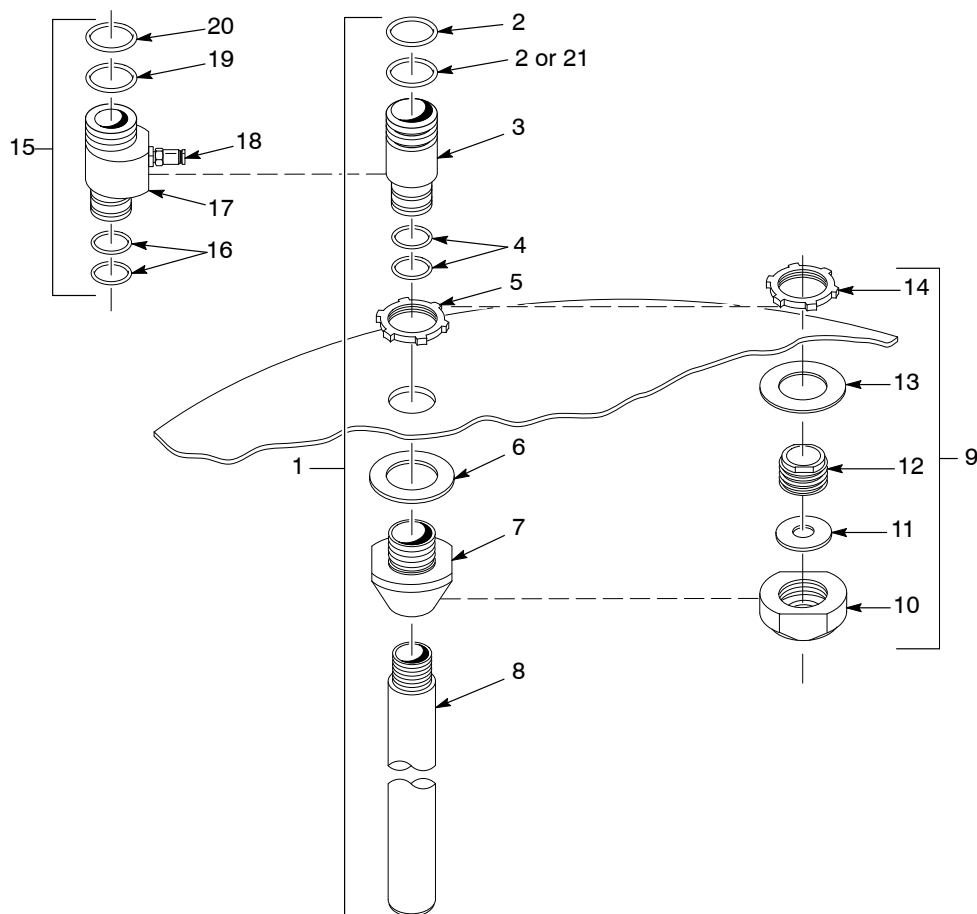

Figure 5 Pump Mount Kits and Optional Purge Mount Kits
See Figure 5.
See Figure 5. These kits are used for the system purge option and can only be used with the 8-mm corona pump, part 344251.
NOTE A: Use these kits together for the system purge option. B: This kit replaces items 5, 6, and 7 of the pump mount with pick-up tube kit illustrated in Figure 5. C: This kit replaces items 2, 3, 4, and 21 of the pump mount with pick-up tube kit illustrated in Figure 5. D: Black silicone O-rings are electrically conductive. Do not substitute non-conductive O-rings unless otherwise instructed.